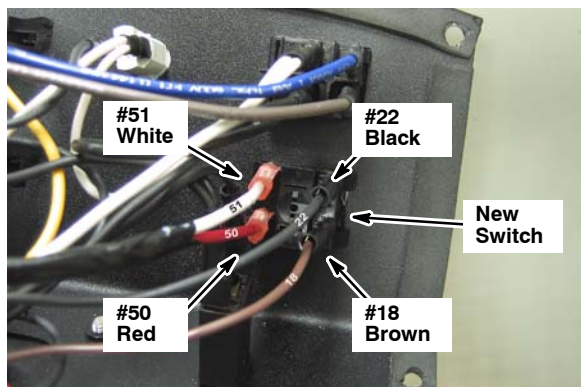

Fig. 5
6. Re-attach wires #18 brown and #22 black to new brush release switch as shown. Attach new harness (1033619) to switch as shown, being sure to use the end of the harness that has even length wire leads (Fig. 5).